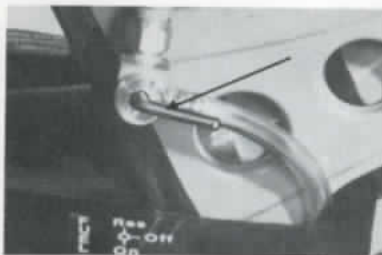

Fig. 6
2. Open fuel valve (see fig. 6)